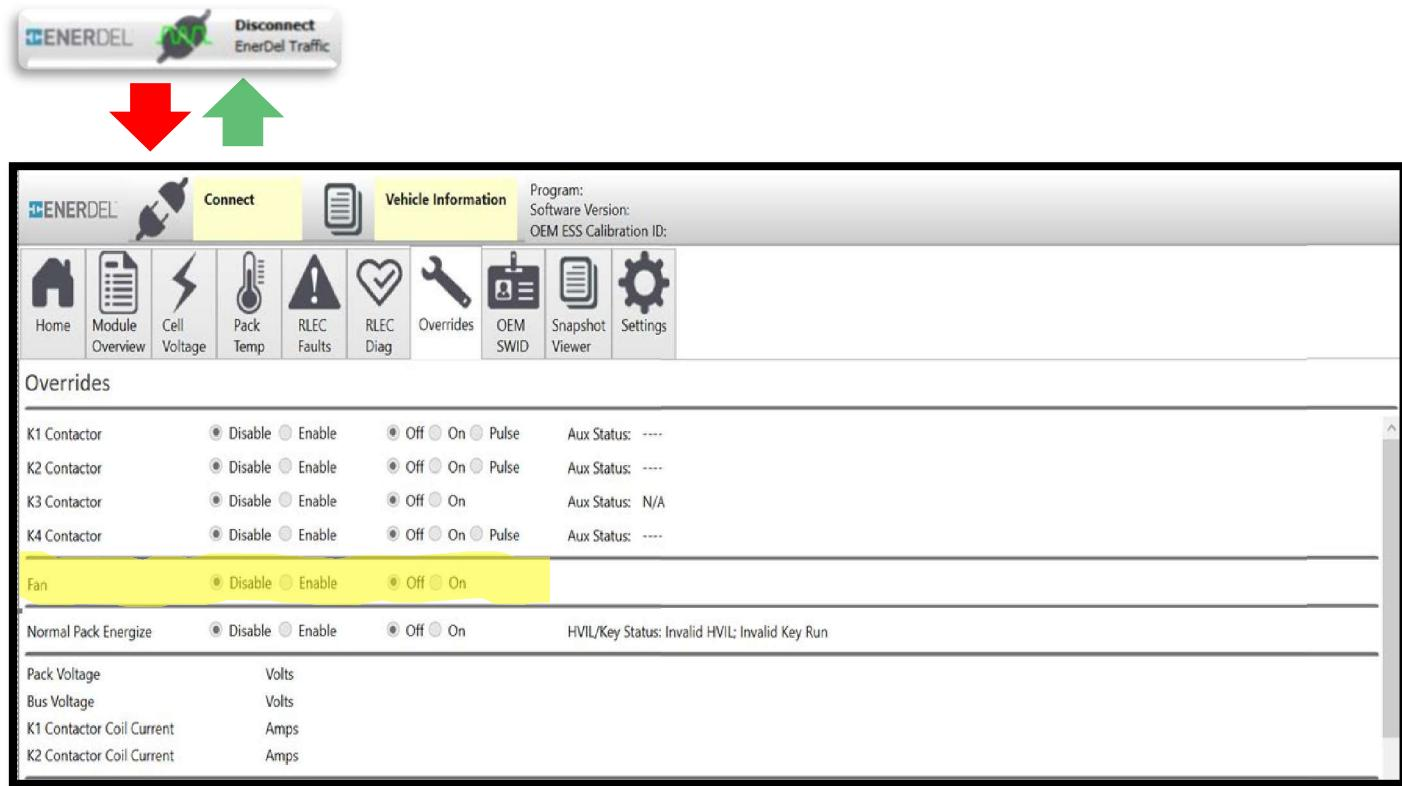

FIGURE 1 – SCREENSHOT OF ENERDEL SOFTWARE FAN DISABLE/ ENABLE FUNCTION
4. After the program opens, select the "Connect" icon in the upper left-hand corner of the screen. The connection icon will change from "Connect" to "Disconnect" when connected. **See Figure 1, green arrow.**
10. Select the “Disconnect” icon to disconnect the EnerDel software. **See Figure 1, red arrow.**